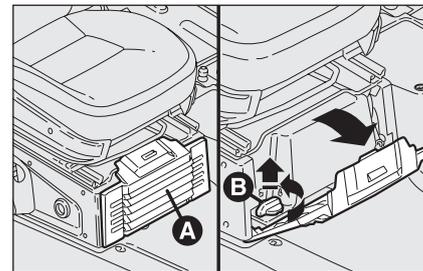

fig. 92
- Open lid **A** and remove it as shown in fig. 92: